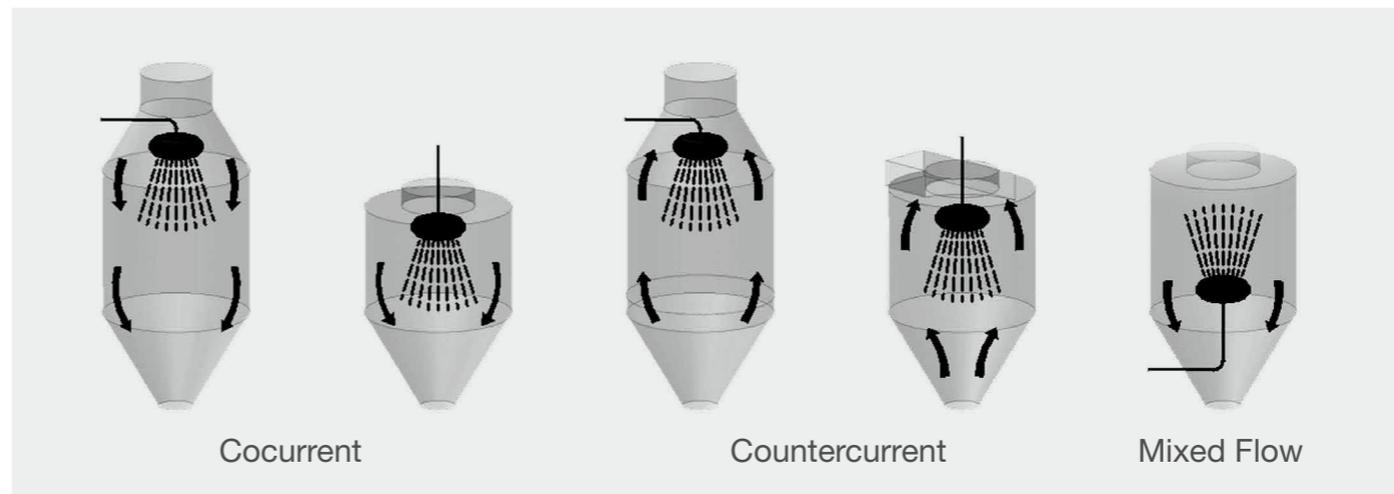

Figure 41. Spray drying flow patterns.
- **Mixed or fountain flow** dryers direct the hot gas flow downward as the feed sprays upward, so it settles down with the gas. This approach is generally used for larger particles because the particle trajectory is increased, allowing extra drying time (see Figure 41).